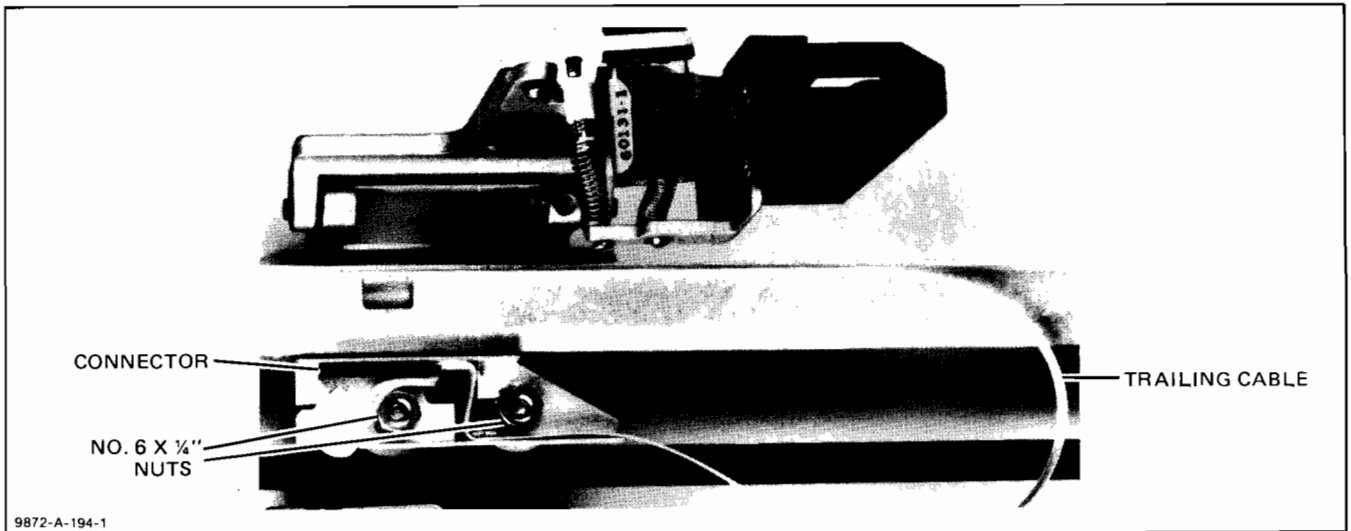

Figure 6-17. Y Trailing and Drive Cables
- g. Unplug the trailing cable from the solenoid leads, and move the leads away from the two nuts on the pen carriage. See Figure 6-17.